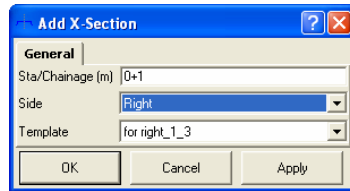

Figure 9-62. Add X-Section
2. In the *General* tab of the *Add X-Section* dialog box, set the following parameters (Figure 9-62 on page 9-40):